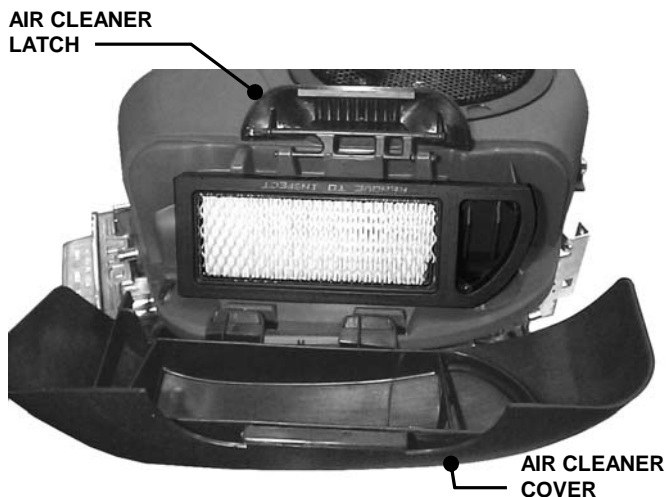

FIGURE 3.4
2. Change air filter. Pull up and rotate the air cleaner latch to remove cleaner cover. See Figure 3.4.